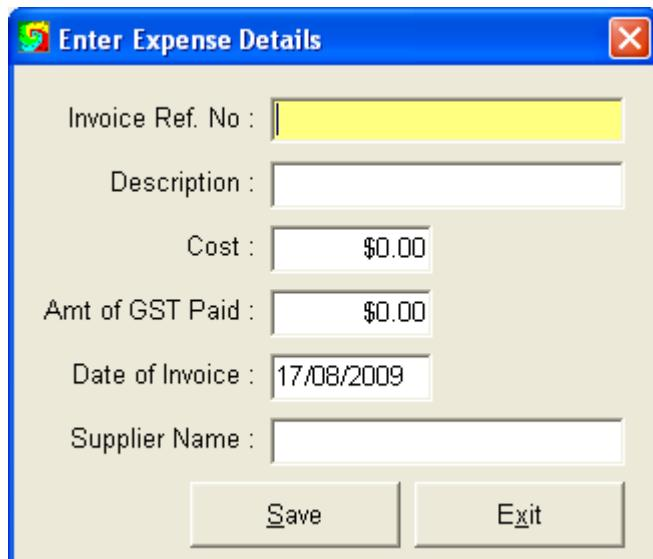

Figure 200
2. This will display the 'Enter Expense Details' window (see Figure 200).